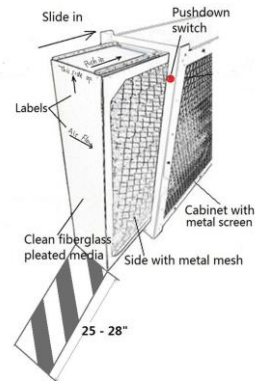

Fig. 7
- Position the new 5" replacement box such that the metal mesh on media faces the metal screen of the cabinet, the end with a hole goes in first, then push the box in strictly following the direction on labels on the box, (Fig.7).